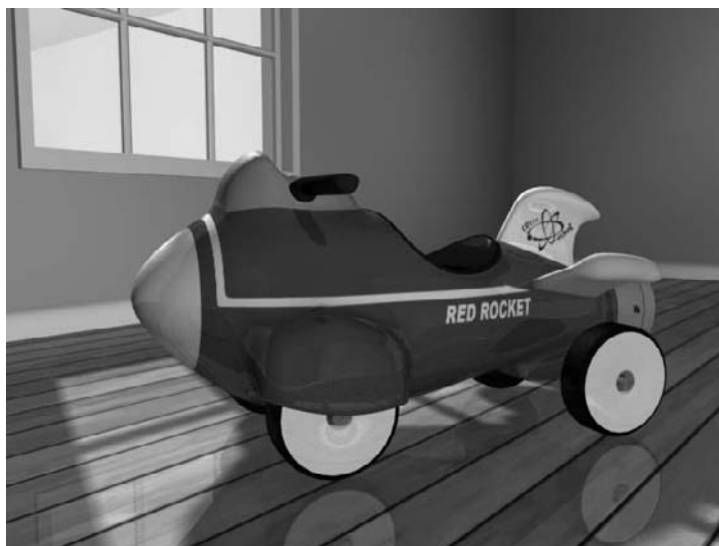

Figure 11.58
- Quick Render the frame and you'll notice the reflections are pretty high. But you can also see how the grooves have no reflection, so the mask works! For a better reflection, turn the reflection amount in the Maps rollout down to 20 for the floor. Figure 11.58 shows a render of the rocket.